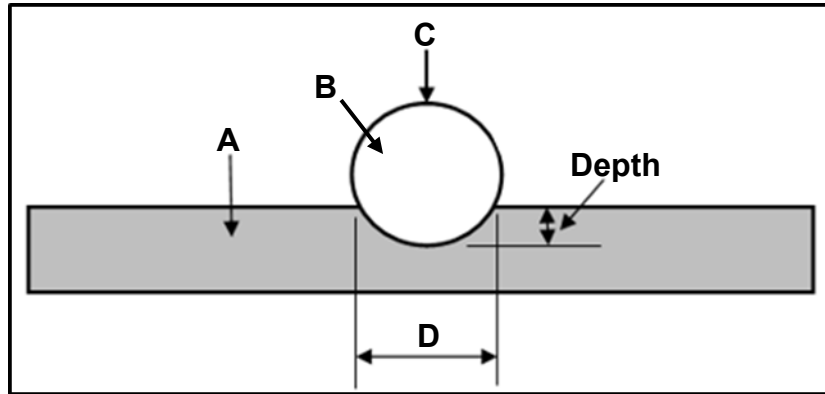

FIGURE 7.2
7.2 FIGURE 7.2 below shows an indentation during a Brinell hardness test. Label A–D.